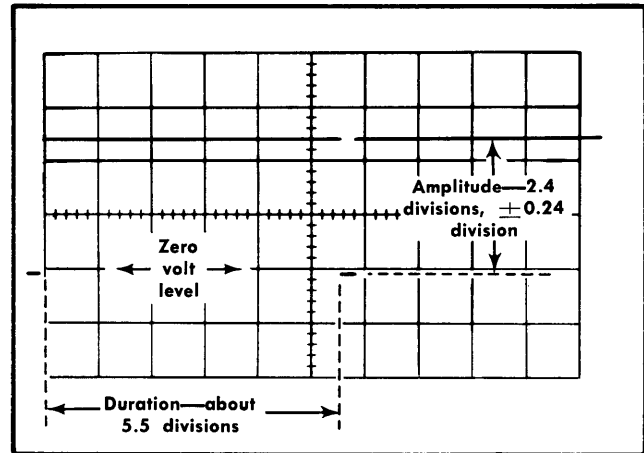

Fig. 5-51. Typical CRT display when checking gate amplitude and duration (vertical deflection, five volts/division; sweep rate, two milliseconds/division).
- d. CHECK—Test oscilloscope display for 2.4 divisions, ± 0.24 division, vertical deflection with the bottom of the waveform near the zero-volt level (12 volts, $\pm 10\%$; see Fig. 5-51). Gate duration should be about 5.5 divisions (about 11 times the A TIME/DIV switch setting).
- c. CHECK—Test oscilloscope display for 2.4 divisions, ± 0.24 division, vertical deflection with the bottom of the waveform near the zero-volt level (12 volts, $\pm 10\%$; see Fig. 5-51). Gate duration should be about 5.5 divisions (about 11 times the B TIME/DIV switch setting).